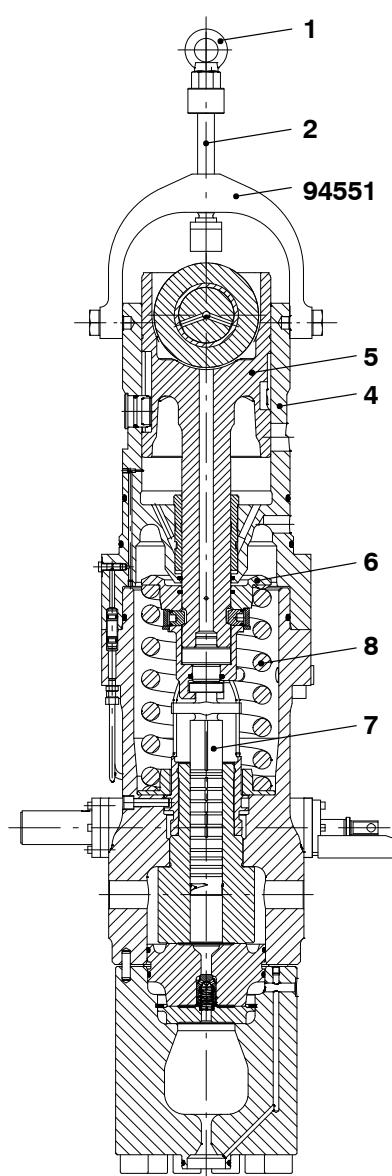
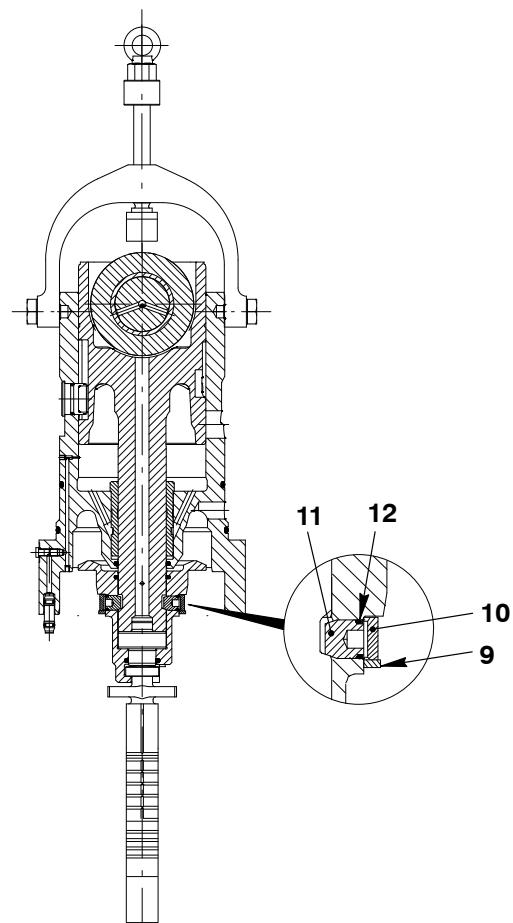

Fig. 6
Fig. 8
- 3) Carefully lift the bottom housing (4, Fig. 6) together with the guide piston (5), the lower spring carrier (6) and pump plunger (7).
- 4) Remove the compression spring (8).
- 5) Remove the circlip (9, Fig. 8) and push the retaining ring (10) down.
- 6) Use the Allen wrench (AW 10) to loosen the connection pins (11) with O-rings (12).
- 7) Pull the pump plunger (7) out of the lower spring carrier (6).
- 8) Put the pump plunger (7) into a safe storage.